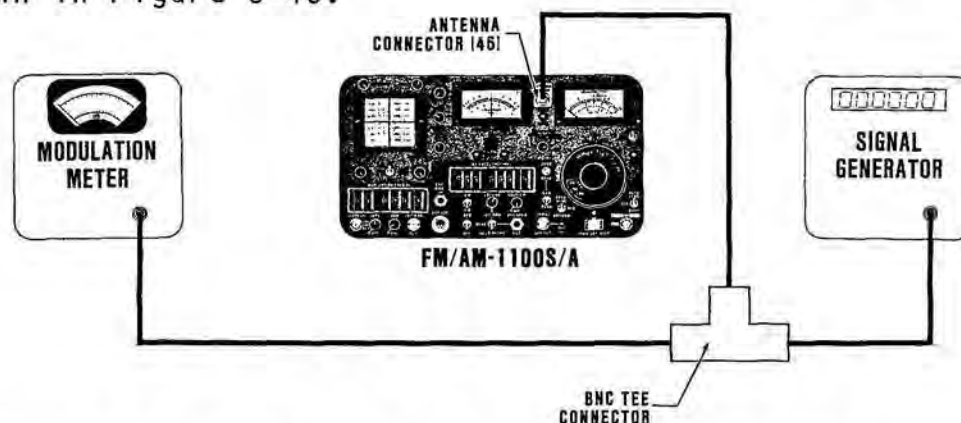

Figure 3-45 Modulation Meter/Signal Generator Connection to FM/AM-1100S/A
17. Set RF FREQUENCY MHz Thumbwheels (34) to "0100010" and verify FREQ ERROR Meter (43) displays -1.0 kHz (± 100 Hz).
18. Set RF FREQUENCY MHz Thumbwheels (34) to "0099990" and verify FREQ ERROR Meter (43) displays +1.0 kHz (± 100 Hz).
19. Rotate FREQ ERROR Control (35) to "5 kHz".
20. Set RF FREQUENCY MHz Thumbwheels (34) to "0099950" and verify FREQ ERROR Meter (43) displays +5.0 kHz (± 0.3 kHz).
21. Set RF FREQUENCY MHz Thumbwheels (34) to "0100050" and verify FREQ ERROR Meter (43) displays -5.0 kHz (± 0.3 kHz).
22. Rotate FREQ/ERROR Control (35) to "15 kHz".
23. Set RCVR WIDE/MID/NARROW Switch (12) to "WIDE".
24. Set RF FREQUENCY MHz Thumbwheels (34) to "0100150" and verify FREQ ERROR Meter (43) displays -15 kHz (± 3.0 kHz).
25. Set RF FREQUENCY MHz Thumbwheels (34) to "0099850" and verify FREQ ERROR Meter (43) displays +15 kHz (± 3.0 kHz).
26. Disconnect coax cable and 40 dB Attenuator from 10 MHz REF OUT Connector (15) and ANTENNA Connector (46).
27. Using BNC Tee Connector and appropriate coax cables, connect Modulation Meter and Signal Generator to FM/AM-1100S/A as shown in Figure 3-45.